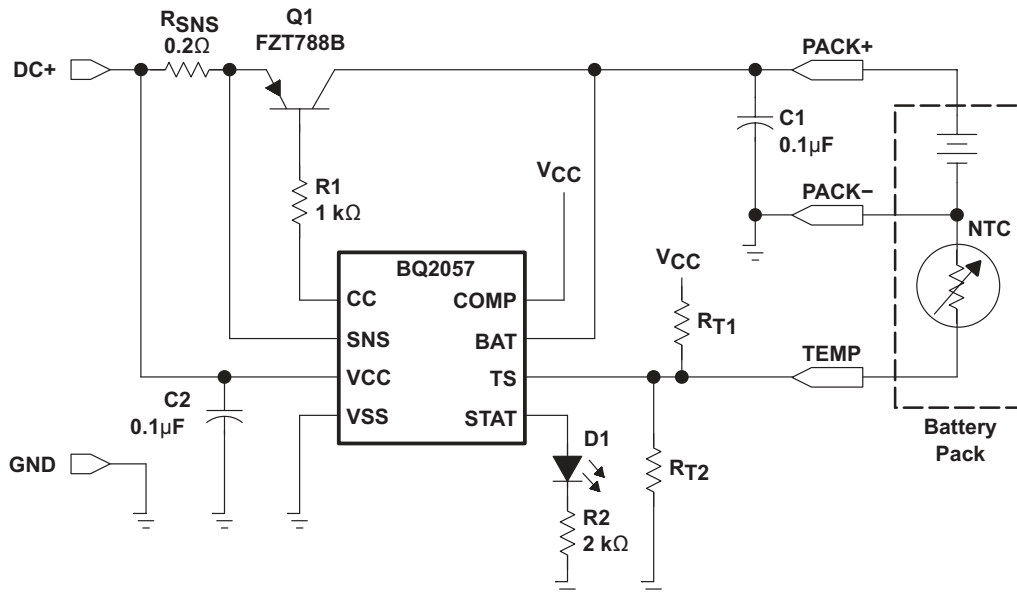
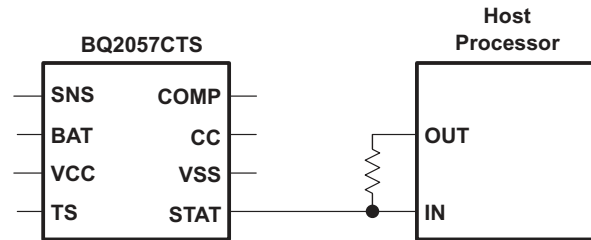

Figure 10-1. Low Dropout Single- or Two-Cell Li-Ion/Li-Pol Charger
Figure 10-11. Interfacing the BQ2057 to a Host Processor
The BQ2057 is an advanced linear charge controller for single or two-cell Li-Ion or Li-Pol applications. Figure 10-1 shows the schematic of charger using a PNP pass transistor. Figure 10-2 is an operational state diagram, and Figure 10-3 is a typical charge profile. Figure 10-4 shows the schematic of a charger using P-channel MOSFET.
The STAT pin can be used to drive a single LED (Figure 10-1), dual-chip LEDs (Figure 4) or for interface to a host or system processor (Figure 10-11). When interfacing the BQ2057 to a processor, the user can use an output port, as shown in Figure 10-11, to recognize the Hi-Z state of the STAT pin. In this configuration, the user needs to read the input pin, toggle the output port and read the STAT pin again. In a Hi-Z condition, the input port always matches the signal level on the output port.
**PNP transistor:** Selection steps for a PNP bipolar transistor: Example:  $V_I = 4.5\text{ V}$ ,  $I_{(REG)} = 1\text{ A}$ , 4.2-V single-cell Li-Ion (bq2057C).  $V_I$  is the input voltage to the charger and  $I_{(REG)}$  is the desired charge current (see Figure 10-1).